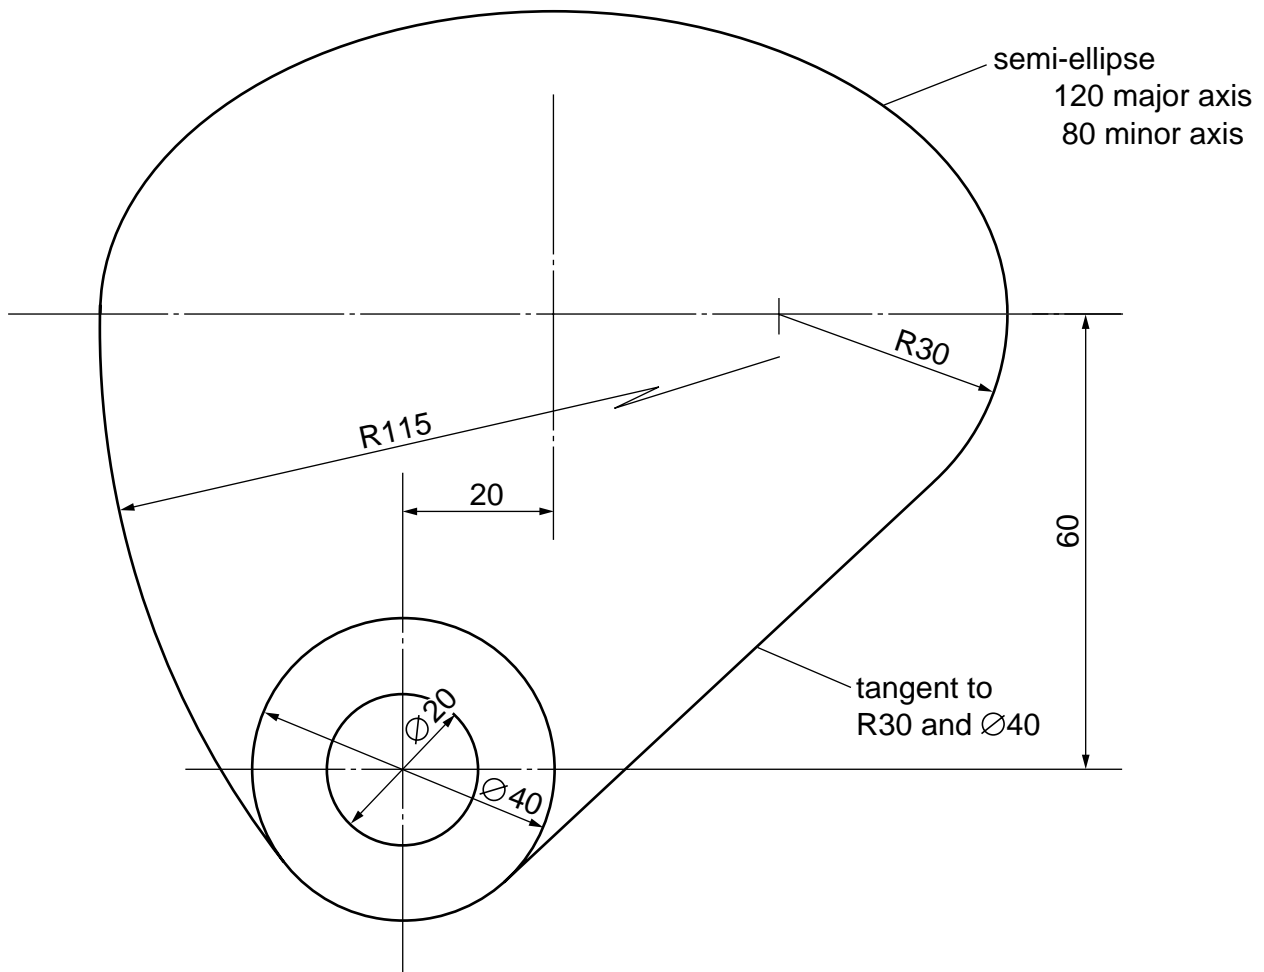

Fig. 1
- 1 Fig. 1 shows the view of a plate cam from a mechanism.